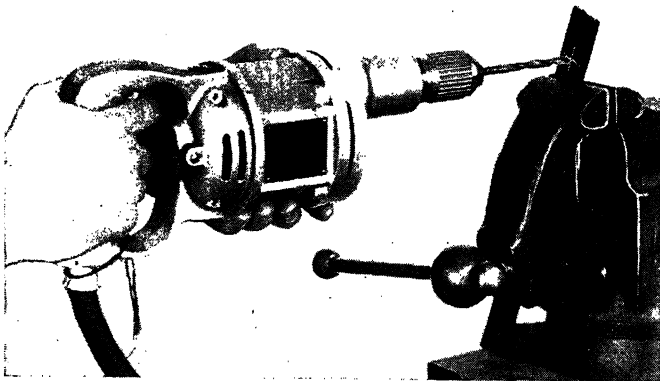
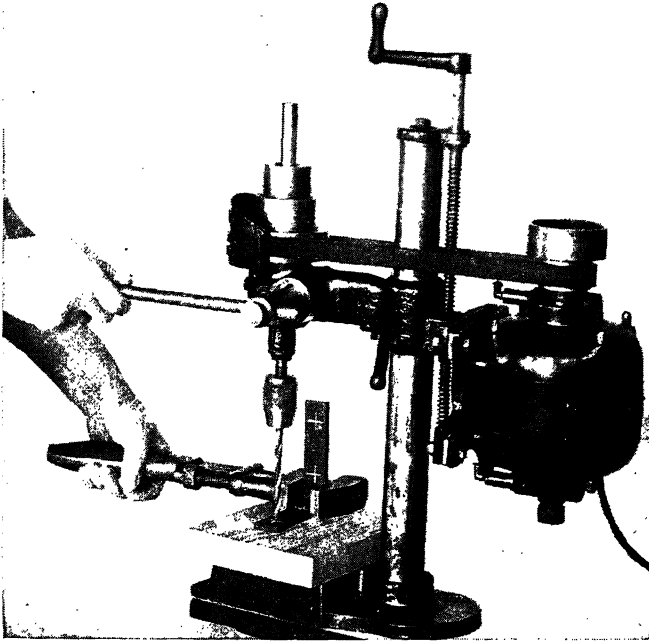
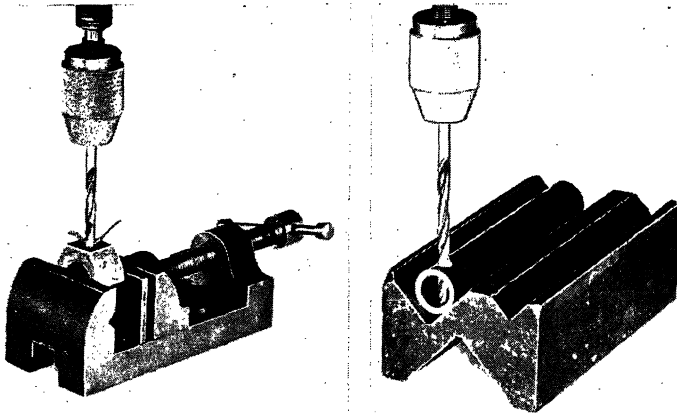

Fig. 78. Drilling with an electric hand drill
Fig. 79. Drilling with an electric bench drill. Do not hold stock in the hands while drilling
Fig. 82. Method of using drill vise and "V" block for holding stock in place while drilling
*Electric Hand Drill.* When available, a portable, electric drill is convenient and rapid. Figure 78 shows a small pistol-grip type, which starts
*Electric Bench Drill.* Convenient new types of electric bench drills are now available. Figure 79 shows such a machine, the drill of which is run by electricity while the feed is operated by hand. Many companies now furnish a stand for converting the portable electric hand drill shown in Figure 78 into a bench drill.
For bench drilling, numerous methods are used to hold the metal. *Do not attempt to hold small pieces in the hands while drilling. Injury may result from such practice.* Small pieces may be held with a monkey wrench, pliers, or some other clamping device (see Fig. 79). A drill vise is a special tool used for this purpose. A portable drill vise that rests on the base of the drill is shown in Figure 82. A "V" block useful for holding round stock is shown in the same figure.